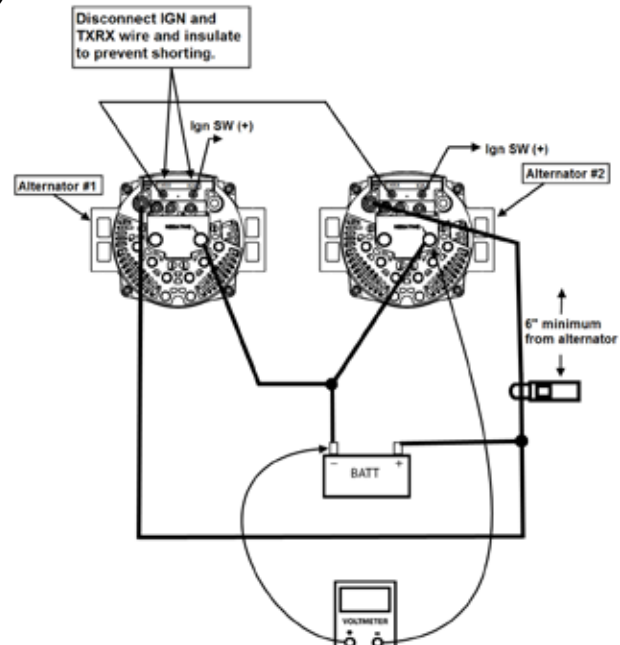

Fig 9
- 1) Connect voltmeter and ammeter per Fig 9.